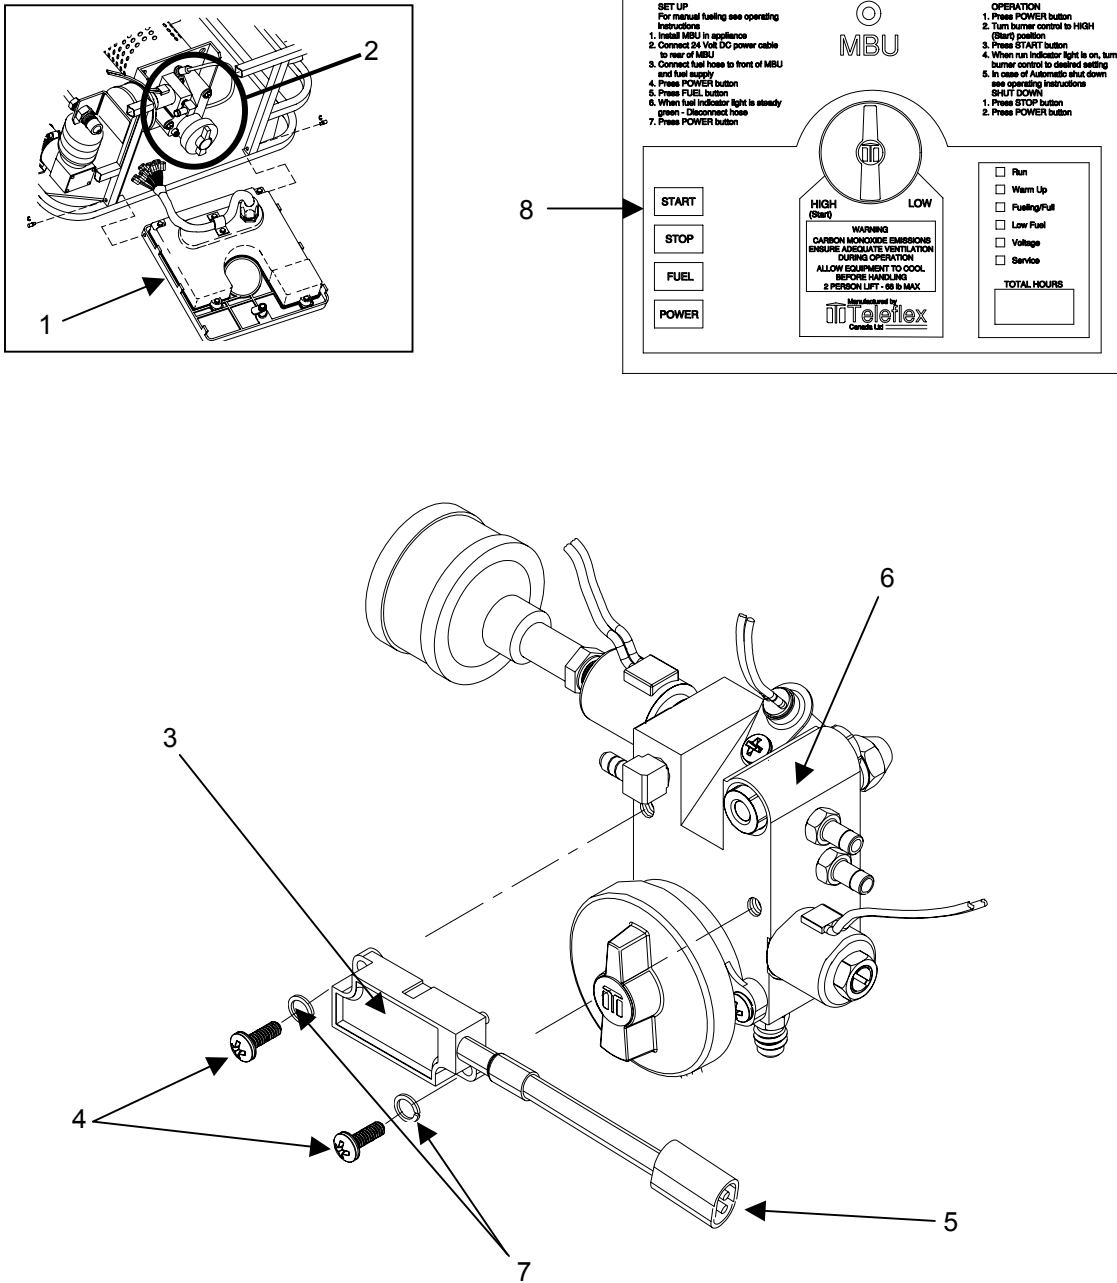

Figure 11. Replace the Flame Sensor
1. Attempt to start the MBU by pressing and releasing the start button (**figure 11, item 3**).
3. Press and hold the start button (**figure 11, item 8**). Wait for the MBU to ignite and continue holding the start button for 20 more seconds. If the flame sensor is bad (**figure 11, item 3**), the burner should shut off immediately when the button is released. The MBU will display ER01.
2. Open control panel (**figure 11, item 1**) to gain access to the fuel delivery block assembly (**figure 11, item 2**).
3. To replace the flame sensor assembly (**figure 11, item 3**), remove the two screws (**figure 11, item 4**) with a cross tip screwdriver.
4. Disconnect the flame sensor wiring harness (**figure 11, item 5**) by opening the clamp and separating the connector at the end of the harness.
5. Remove the flame sensor assembly (**figure 11, item 3**).
6. Install a new flame sensor assembly (**figure 11, item 3**) on the fuel delivery block (**figure 11, item 6**).
7. Ensure lockwashers (**figure 11, item 7**) are in place, and secure the two screws (**figure 11, item 4**) with a cross tip screwdriver.
8. Reconnect the flame sensor wiring harness assembly connector (**figure 11, item 5**).
9. Close the control panel (**figure 11, item 1**).